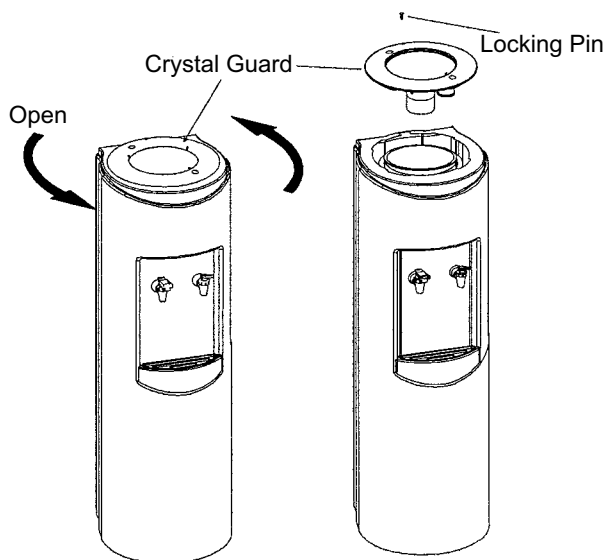

Figure 1.
2. Press on the Guard rim and turn counter clockwise to remove (Figure 1).